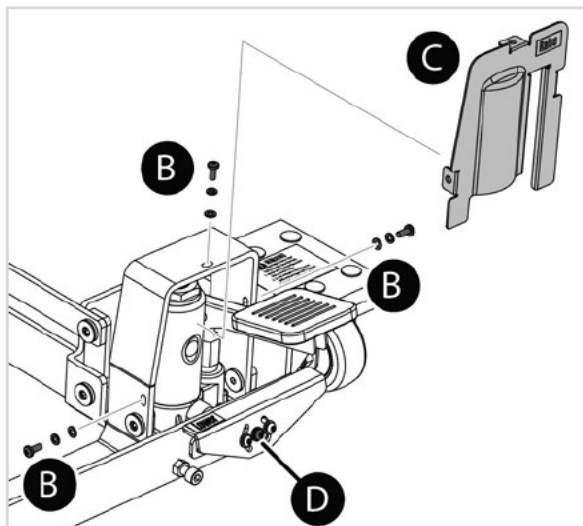

Fig. 8
- Use SAE 30 oil to periodically lubricate the points (A) shown in Fig. 10. To access the lubrication points, remove the three jack cover screws (B) using a Philips head screwdriver (see Fig. 8) and then remove the jack cover (C).
1. Make sure the saw is lowered to the ground. Remove the center release lever screw (D) shown in Fig. 8 using a 4mm hex wrench.